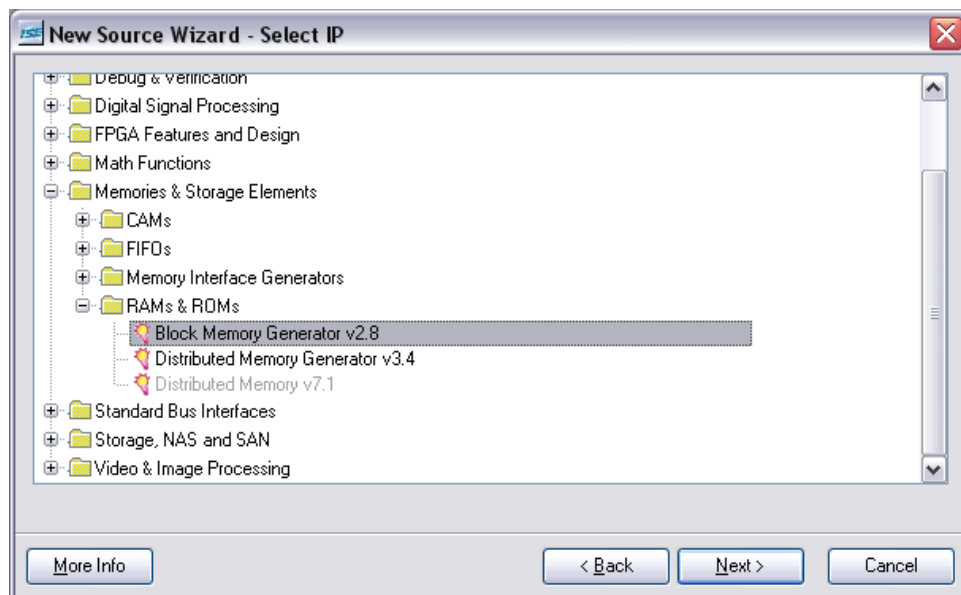

Figure 8: IP Selection
- c. Select **Block Memory Generator v2.8** in the submenu **RAMs & ROMs** under the **Memories & Storage Elements** option (Figure 8). Select **Next**, then **Finish**.